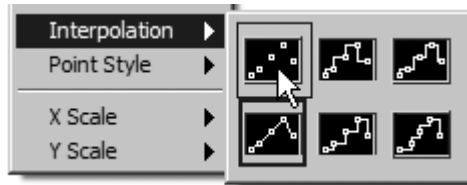

Figure 8.39
- The **Interpolation** option determines how LabVIEW draws lines between data points (see Figure 8.39). The first option does not draw any lines, making it suitable for a scatter plot (in other words, you get points only). The option at the bottom left draws a straight line between points. The four stepped options link points with a right-angled elbow, which is useful for histograms.